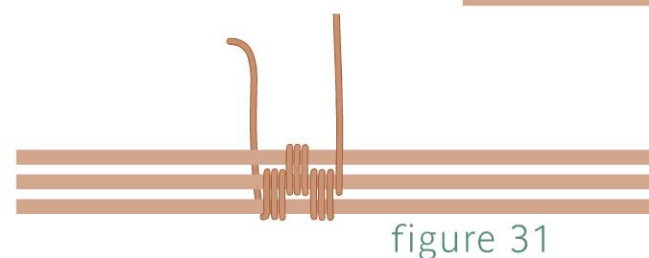

figure 31
- 5 Coil the weaving wire around the first two frame wires three times and on the third coil, bring the weaving wire up between the two frame wires (Figure 31).